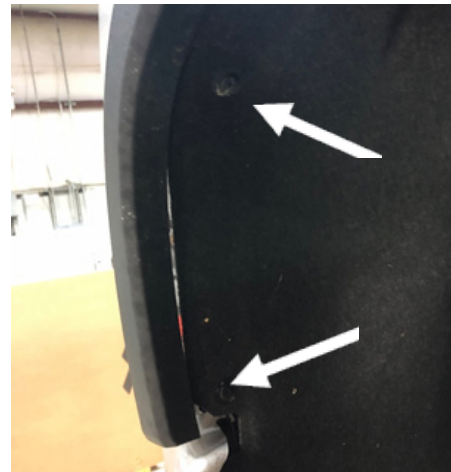

Figure 1
1. Use a T10 star head socket wrench to remove the two (2) bolts from both the passenger and driver side wheel wells. Figure 1.